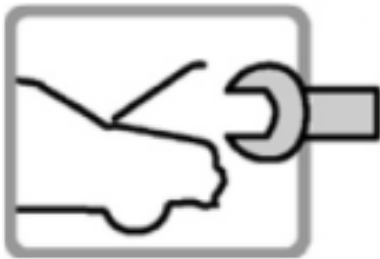

Figure 4
4. Make troubleshooting as Figure 4 shows.